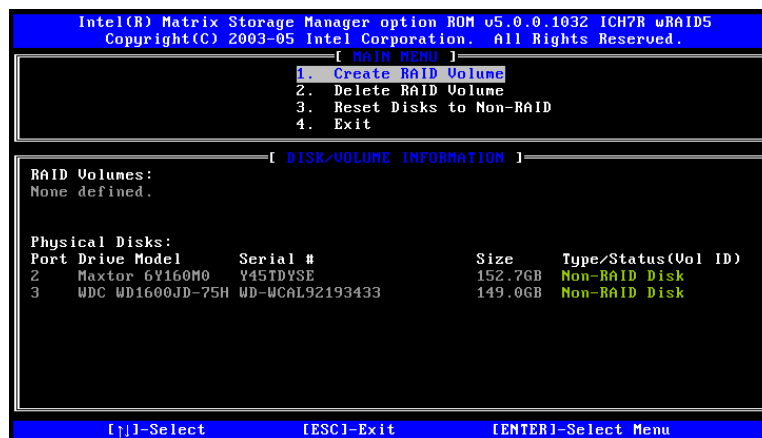

Figure E-1: Matrix Storage Manager Main Menu
- Step 1: Select “Create RAID Volume.”** Use the arrow keys to highlight **Create RAID Volume** and press **ENTER**. See **Figure E-1**.